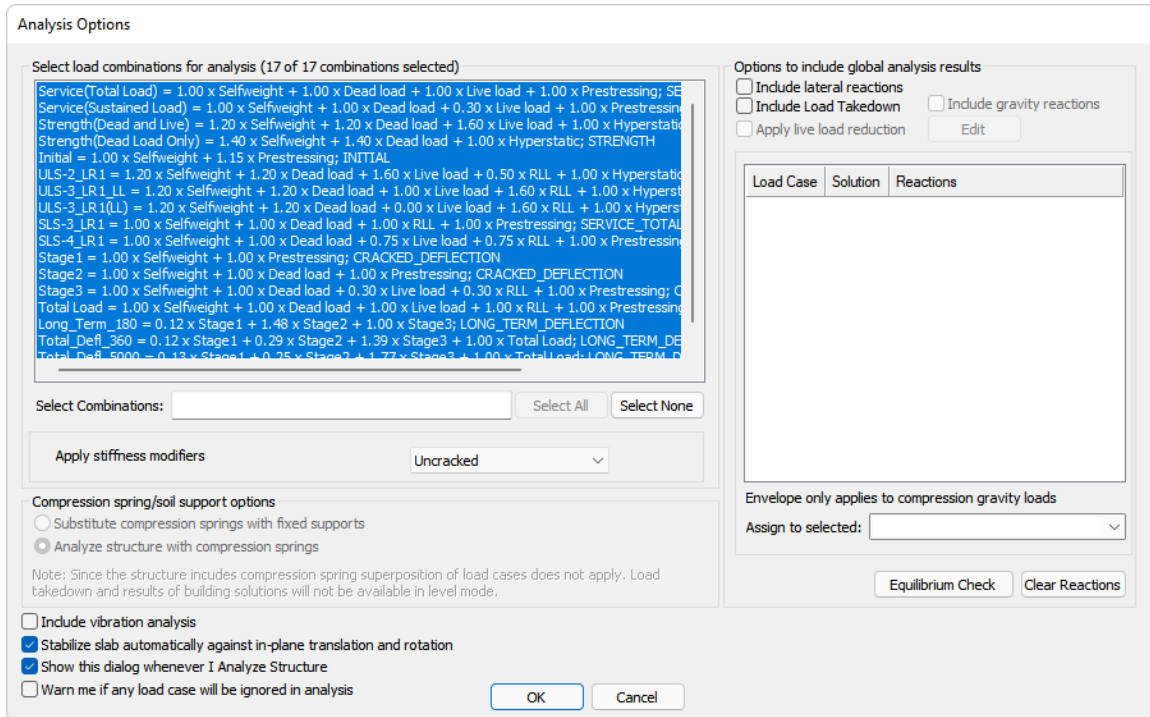

FIGURE 9-84
- Go to *Analysis* -> *Analysis* and click the **Execute Analysis**  icon, this will open the *Analysis Options* window shown in **FIGURE 9-84**.